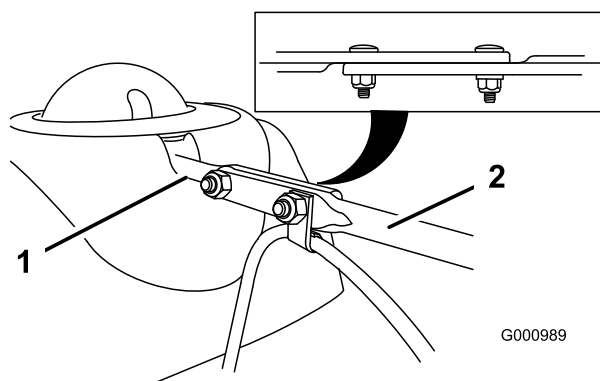

Figure 14
- Align the flattened back end of the long chute control rod with the flattened front end of the short rod that extends from the control panel so that they nest together (Figure 14).